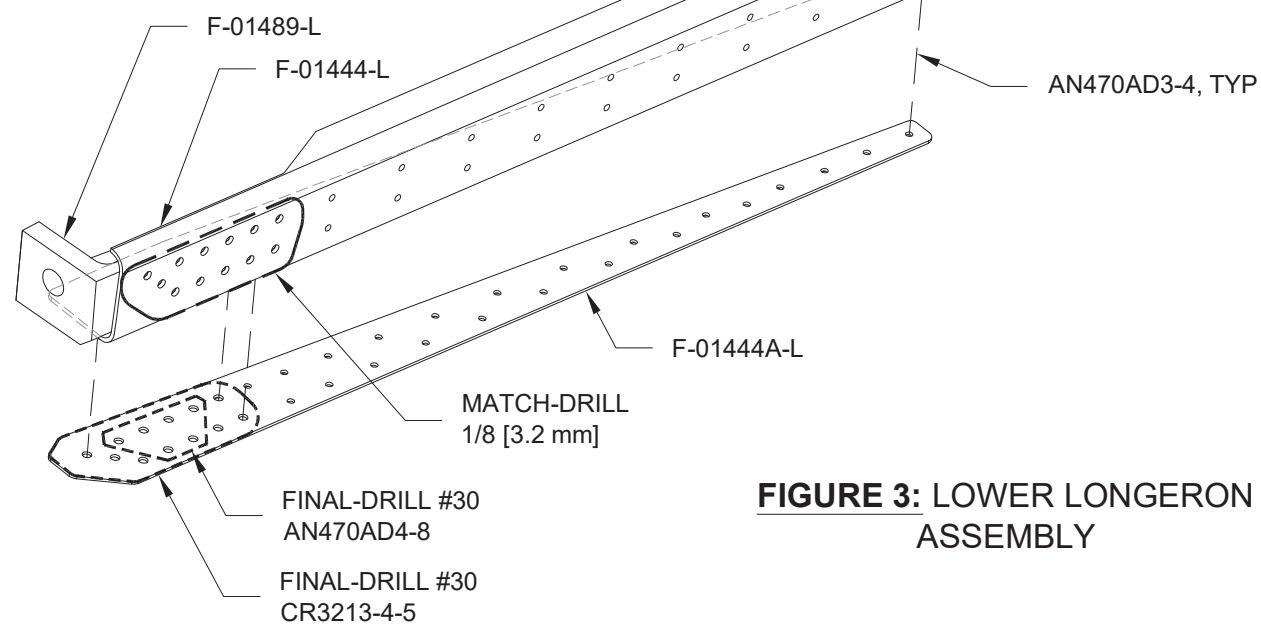

FIGURE 3: LOWER LONGERON ASSEMBLY
Step 5: Final-Drill #30 the holes in the bottom of the longeron doubler into the F-01444-L Longeron and lower engine mount bracket. See Figure 3.
Step 8: Rivet the longeron doubler to the F-01444-L Longeron and lower engine mount bracket using the rivets called out in Figure 3.